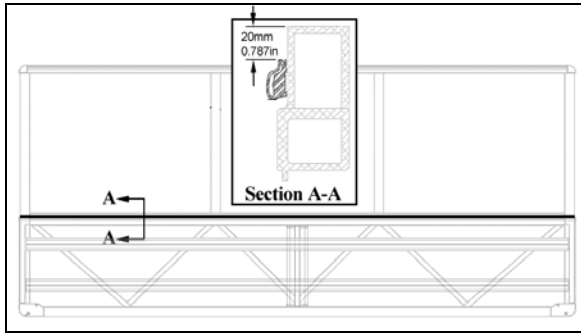
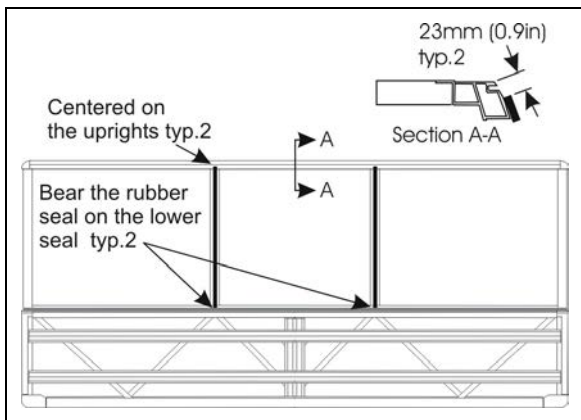

FIGURE 50 : FACE FIXED WINDOWS - RUBBER SEAL INSTALLATION
FIGURE 51 : FACE FIXED WINDOWS - RUBBER SEAL INSTALLATION
2. If necessary, install the rubber seals as per FIGURE 50 & FIGURE 51. Press the seal against the structure with a roller.